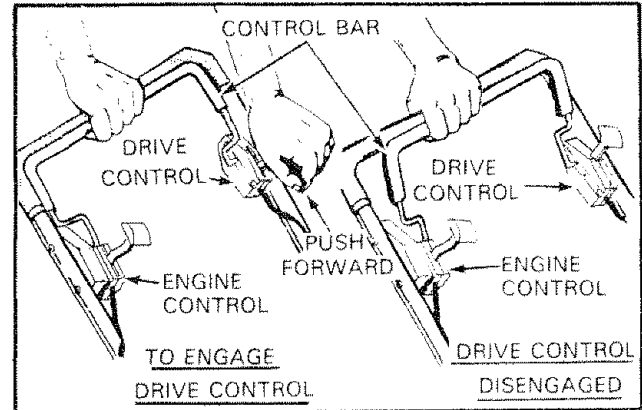

FIG. 13
Your mower is equipped with a zone/engine control attached and requires no adjustments (See Fig. 13).
The power-propelling forward motion is controlled by pulling the control bar down to handle and pushing the drive control lever forward until it clicks, then release the lever (See Fig. 13).
5. Hold, clip or tape down the drive control bar and engage the drive control (See Fig. 13).